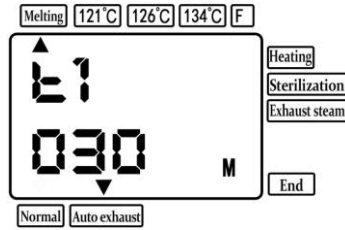

Fig. 15
④ Melting time setting: You can refer to the operation steps in section ② (Set sterilization time) (Fig.15).